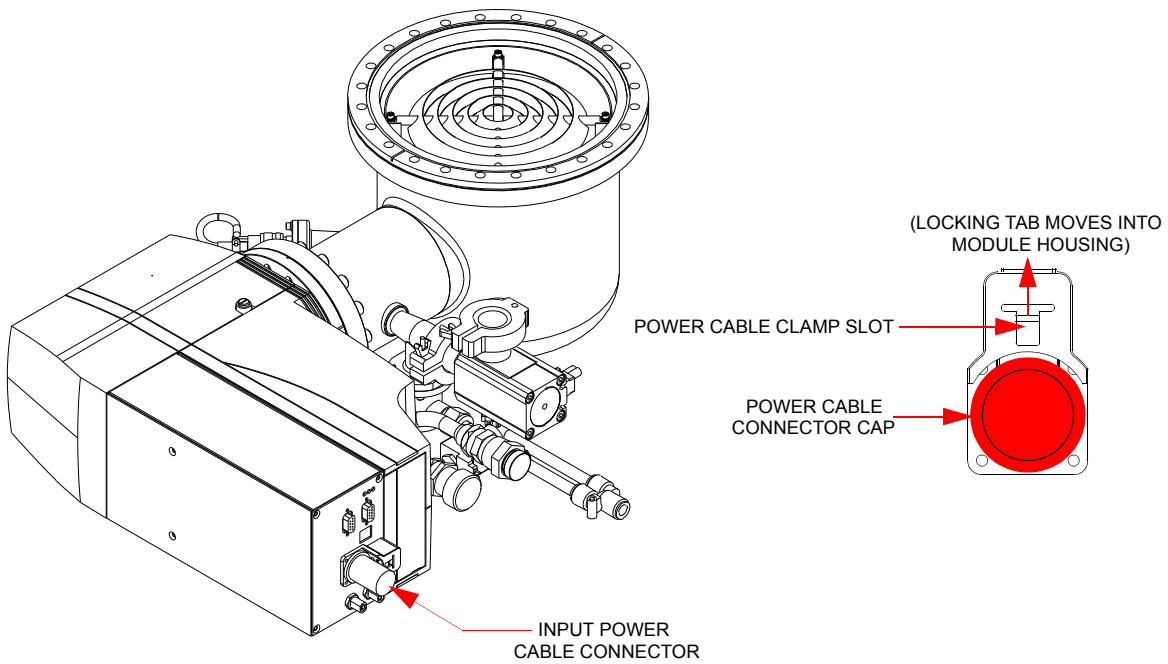

Figure 3-13: Input Power Cable Connection Point for the Module Power Connector
1. Insert a flat blade screwdriver into the power cable clamp slot on the On-Board IS Cryopump Module as shown in Figure 3-13.
2. Move the screwdriver away from the power cable connector cap in Figure 3-13.